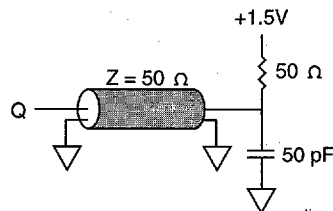

Figure 3
15. AC output loading is specified with $C_L = 50pF$ as in Figure 3. Figure 4 is shown for reference. Transition is measured at the 1.5V reference level.